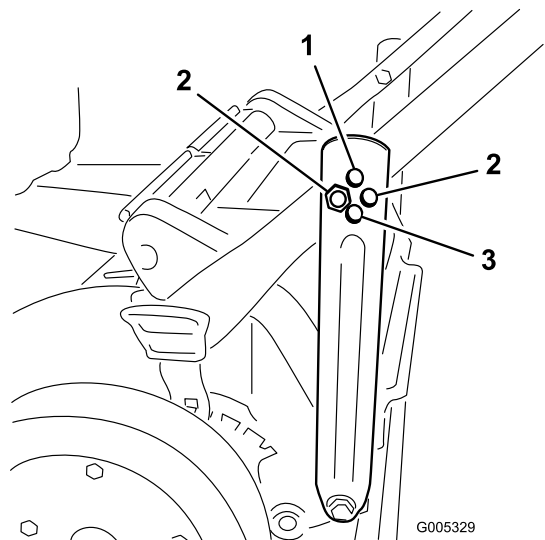

Figure 6
- Insert the bolt through the hole in each of the handle braces that sets the handle to the desired position and tighten (Figure 6).